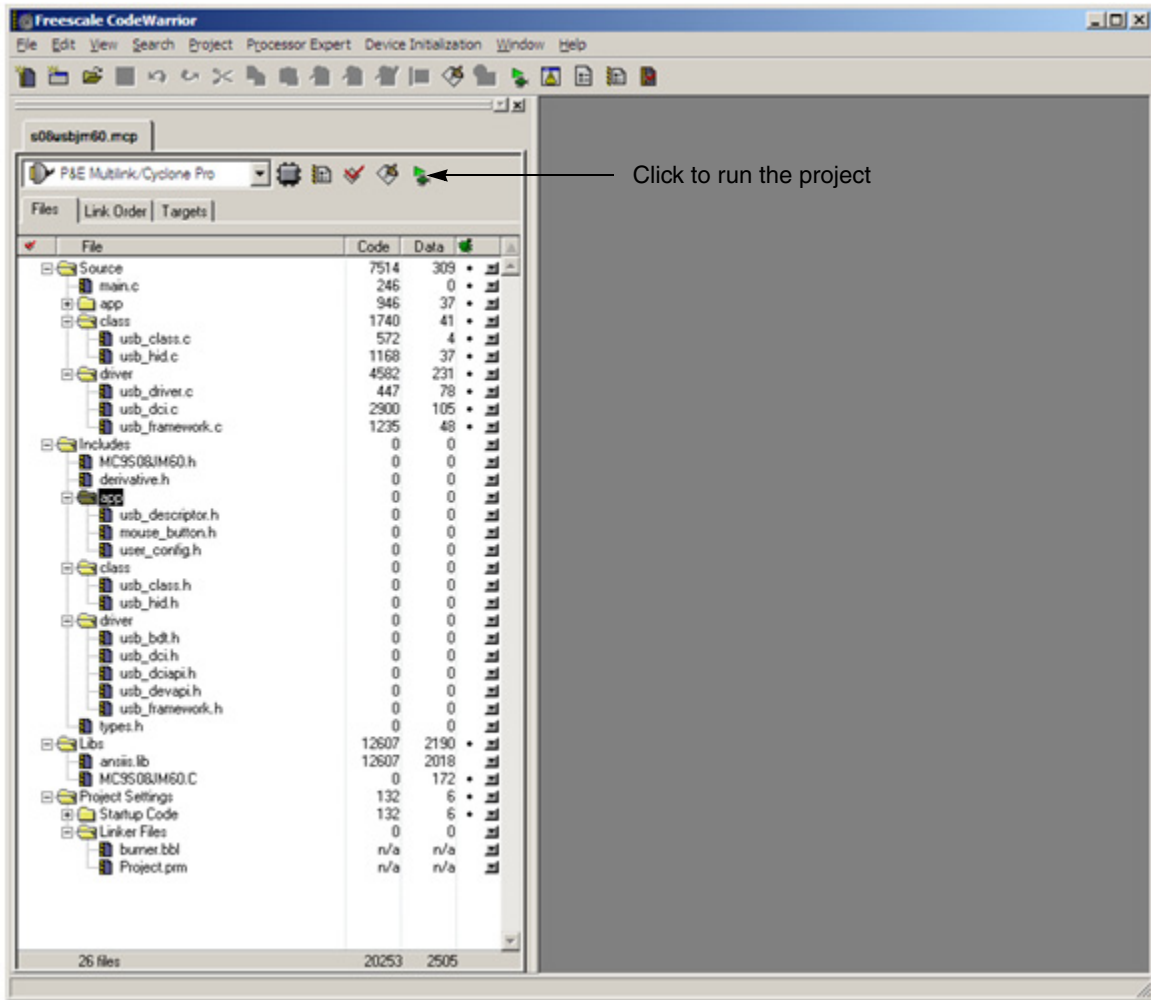

Figure A-10. Running the application
1. To run the application, click the button as shown in Figure A-10.